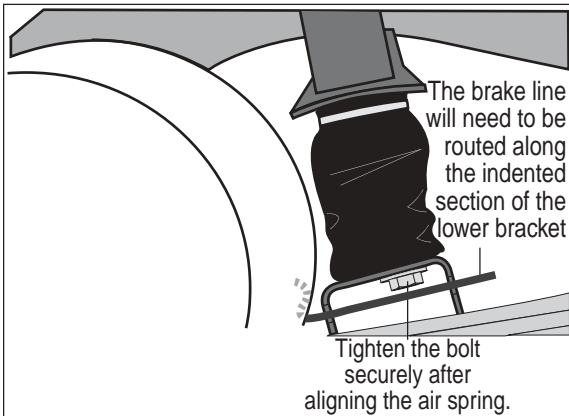

Figure 17
NOTE: The brake line will route freely through the indented section of the lower bracket. If the brake line is rubbing on the bracket, the bracket is on the wrong side of the vehicle (Figure 17).
2. When aligned, tighten the lower end by holding the air spring and turning the bolt with a $\frac{3}{4}$ " open end wrench (Figure 17). Snug (10 ft-lbs) will be sufficient and will also prevent stripping the threads. *Do not attempt to hold the air spring with any type of tool.*